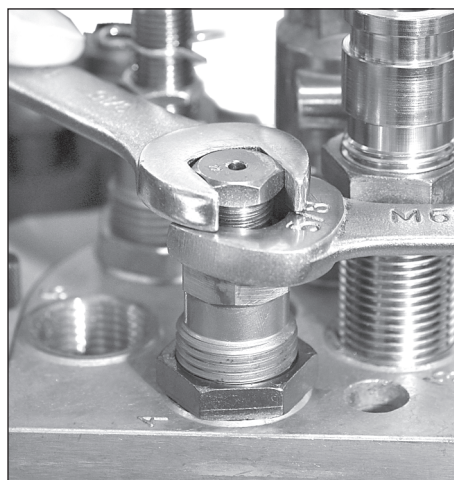

FIG 120
8. Once you have obtained the proper OAL, replace the cartridge into Station 4, raise the platform and snug the locking on the seating stem **FIG 120**.